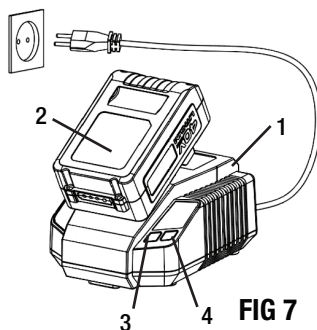

FIG 7
CHARGING THE BATTERY (FIG 7)
- Plug the charger (1) into a 120 Volt AC power source. The green light (3) will illuminate for 5 seconds, then the light will go off if no battery pack in the charger.
- Slide the battery (2) all the way into the charger until it locks in place with a click, as shown in FIG 7. The flashing green light indicates that the battery is charging. A solid green indicates the battery is fully charged.
- The flashing red light (4) indicates the battery temperature is too high to be charged. Wait the battery cool down to start the charging.